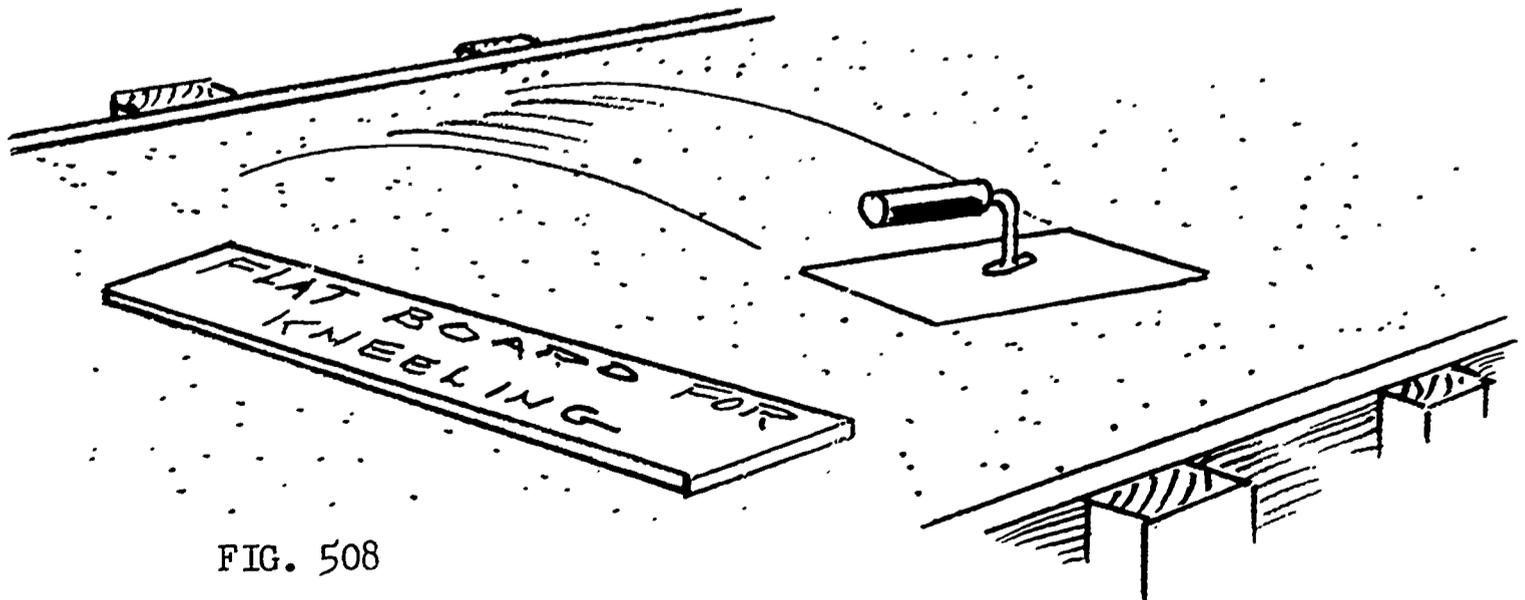

FIG. 508
4. If a finer texture is desired use the steel trowel. See figure 508.